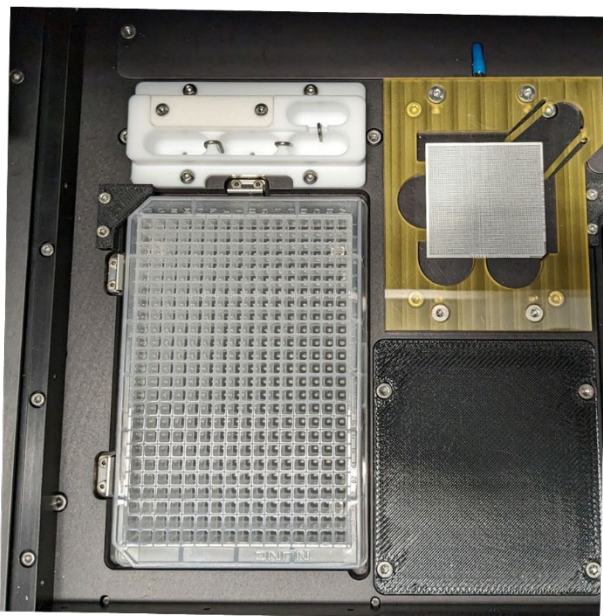

Figure 54. Sample source plate in the plate nest.
The workflow will next prompt you to place the 384-Well Source Plate in the plate nest (Figure 54). A source plate contains either the samples (i.e., a sample source plate) or the reagents (i.e., a reagent source plate) that are to be transferred using the Shasta Single Cell.
1. Place the sample source plate in the plate nest with the A1 position in the top-right corner (Figure 54). Press down on the plate to ensure it is sitting flat against the platform.